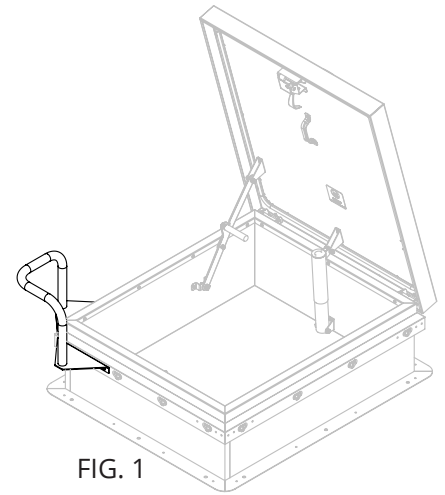

FIG. 1
1. Align the Safety Grab Bar to desired corner and in line with pre-drilled holes. Recommended to install grab bar on same side as the hold open arm. (Fig. 1)